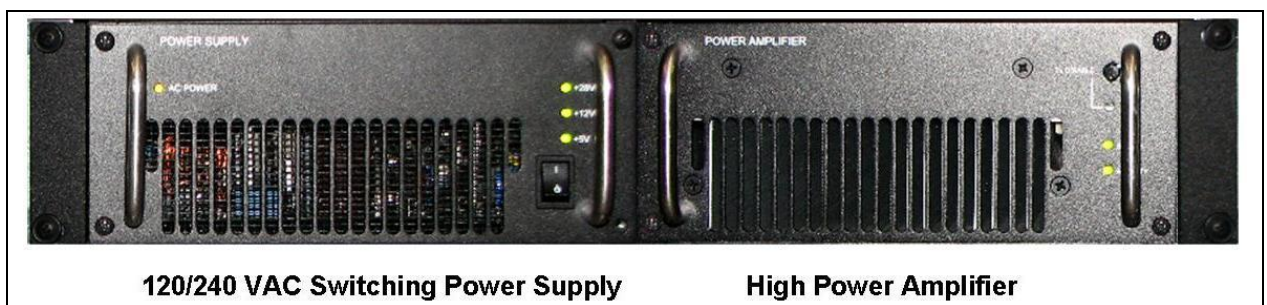

Figure 4-3: MASTR V HPA/PS Shelf Assembly (shown with HPA and PS installed)
The High Power Amplifier (HPA) (refer to Section 4.3.6) and the Power Supply (PS) (refer to Section 4.3.6.1) are installed in a 19" rack mountable, 2-slot metal shelf, model MA-555003 (refer to Figure 4-3). The HPA/PS shelf is a mechanical-only assembly with no electrical components.